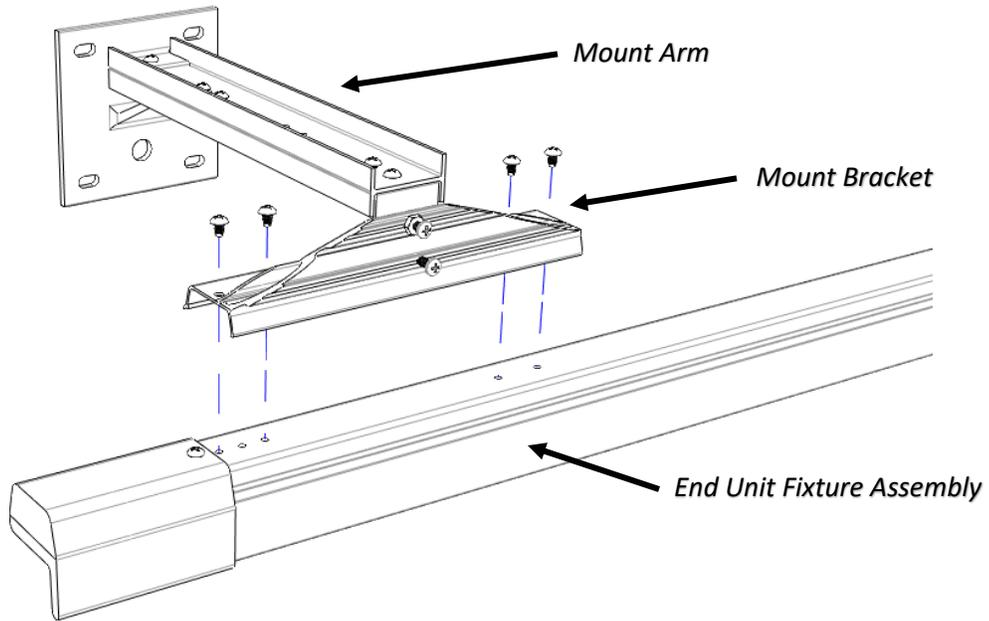

Figure 4: Connecting to a 4-ft End unit.
5. See Figure 4 to mount end units.